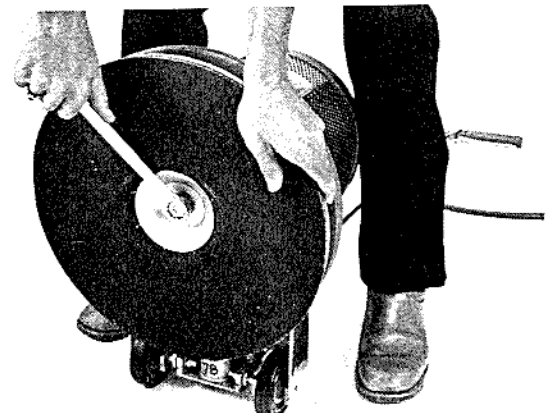

Figure 8
8. Install the washer and the nut that hold the paper holder. See figure 8.